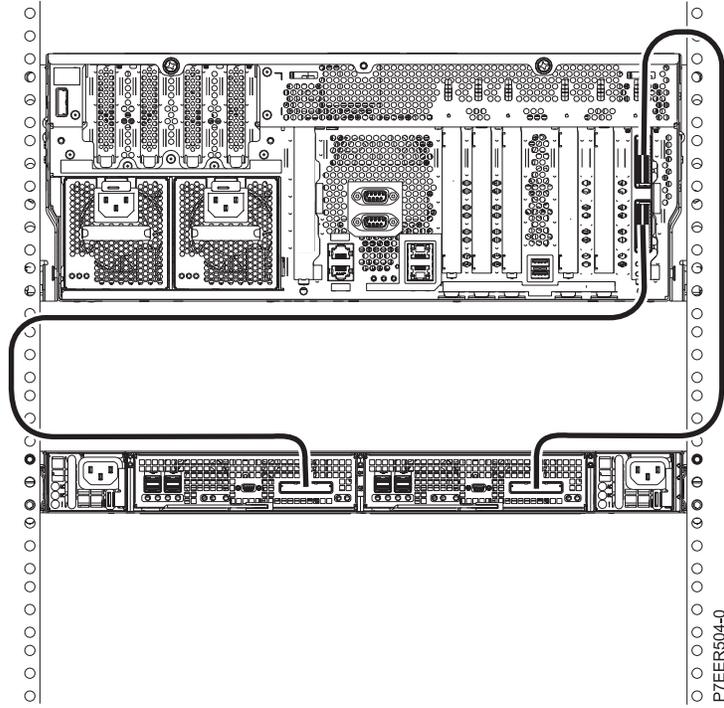

Figure 3. One 58/88 PCIe storage enclosure connected to a single 02E/4C or 05E/6C system by using one FC EJ03 PCIe2 GX++ adapter and two PCIe cables
Figure 3 on page 5 shows one 58/88 PCIe storage enclosure connected to a single 02E/4C or 05E/6C system by using one feature code (FC) EJ03 PCIe2 GX++ adapter and two PCIe cables.